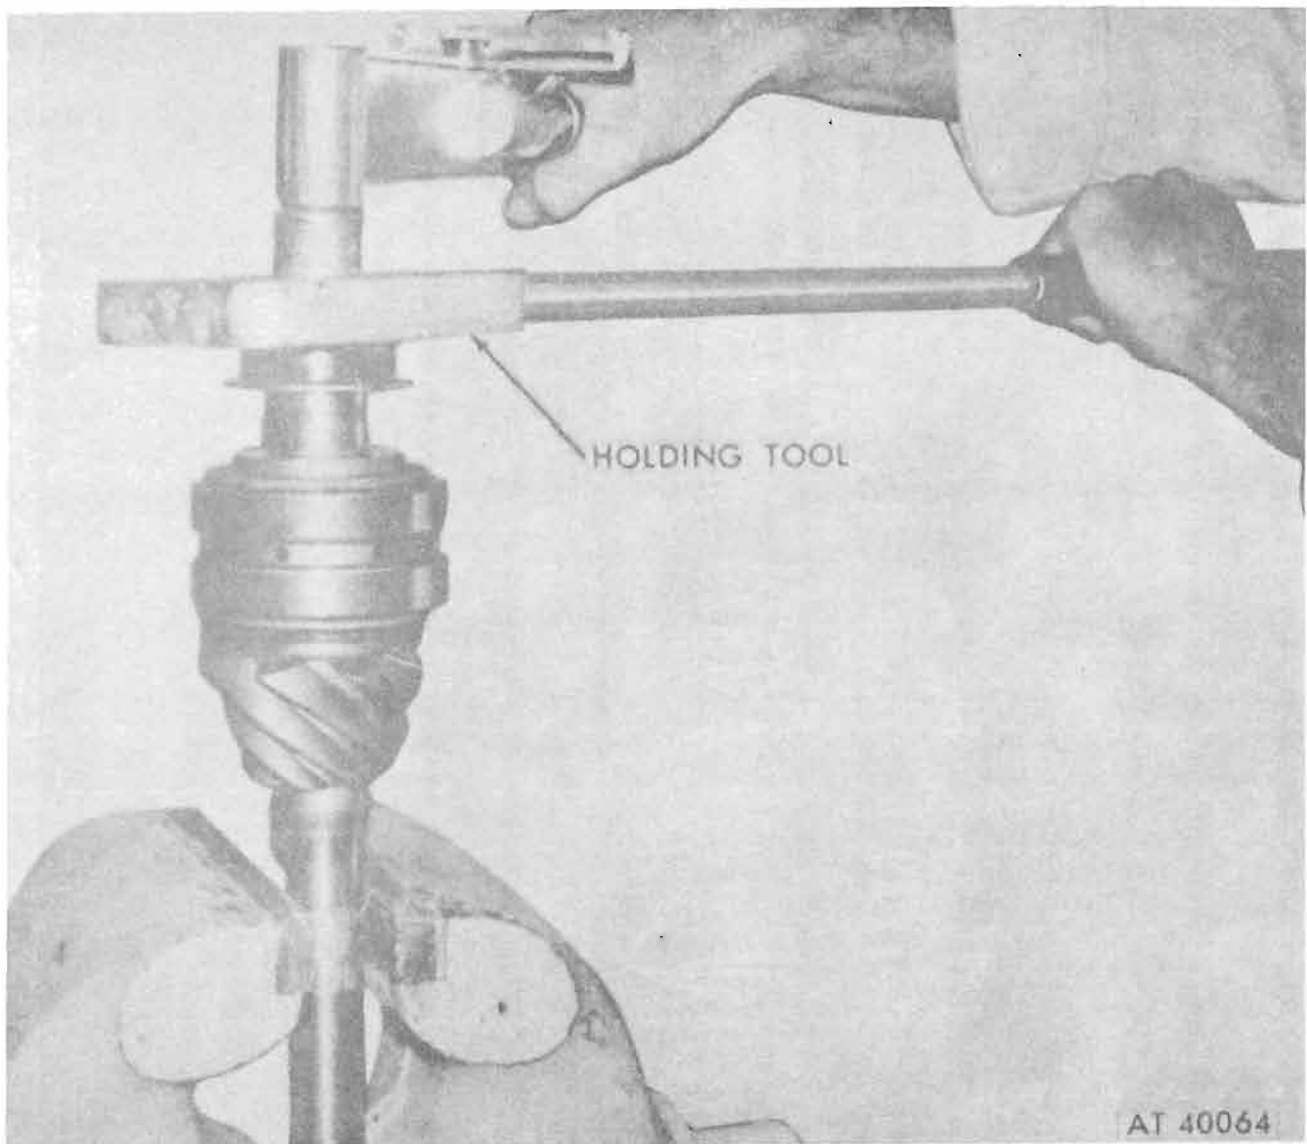

Figure 12-57. Installing front drive flange, washer, and nut on pinion shaft.
c. Using suitable holding tool, install front drive flange, washer and nut on pinion shaft. Torque nut to 60-70 lb.-ft. (fig. 12-57).